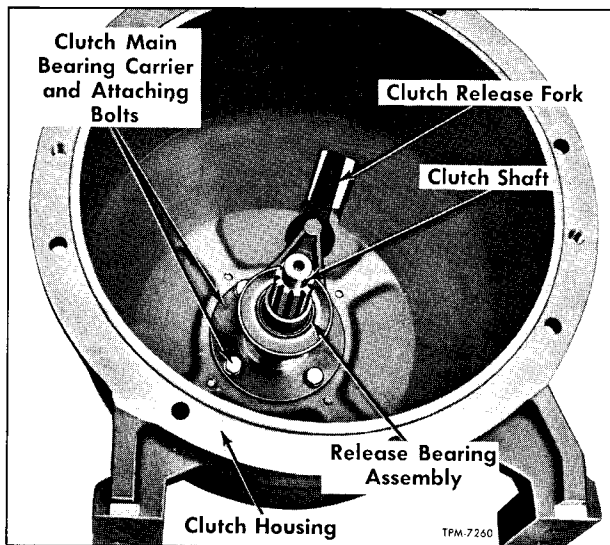

Figure 102—Clutch Fork and Drive Shaft Installed in Clutch Housing
2. Remove socket head screws (13 and 14), which attach clutch housing (12) to compressor. Using two puller screws installed into tapped holes near top and bottom of clutch housing, remove housing evenly from compressor. Figure 102 shows housing with shaft removed. Remove pump drive belts from compressor flywheel pulley.
CLUTCH HOUSING AND SHAFT DISASSEMBLY (Refer to Fig. 102)
7. Install clutch release fork (8) to clutch housing, using new external lock washer on ball stud. Tighten stud firmly. Figure 102 shows assembly built up.